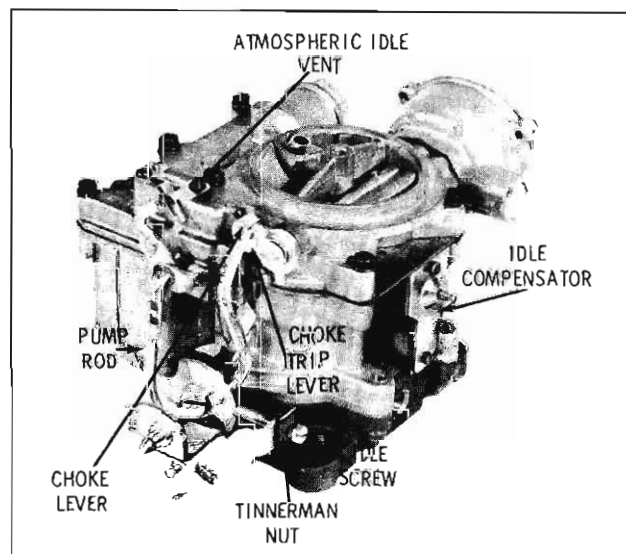

Fig. 4-140 Carburetor Assembly
COMPLETION OF ASSEMBLY (Fig. 4-140)
2. Insert the choke rod into the upper choke lever and install the idle cam on the lower end of the lever; then attach idle cam to float bowl, retaining with the idle cam screw. (Fig. 4-140)
3. Install accelerator pump rod and retainers in position as shown in Fig. 4-140.